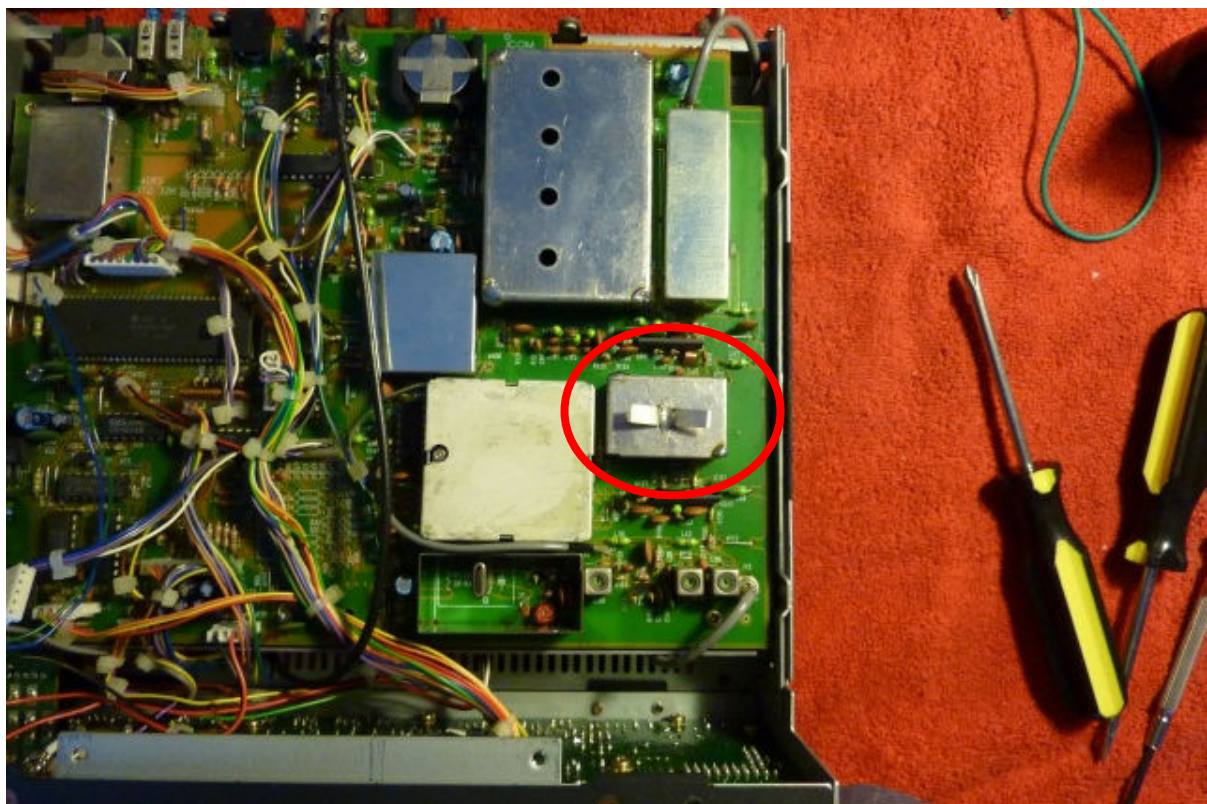
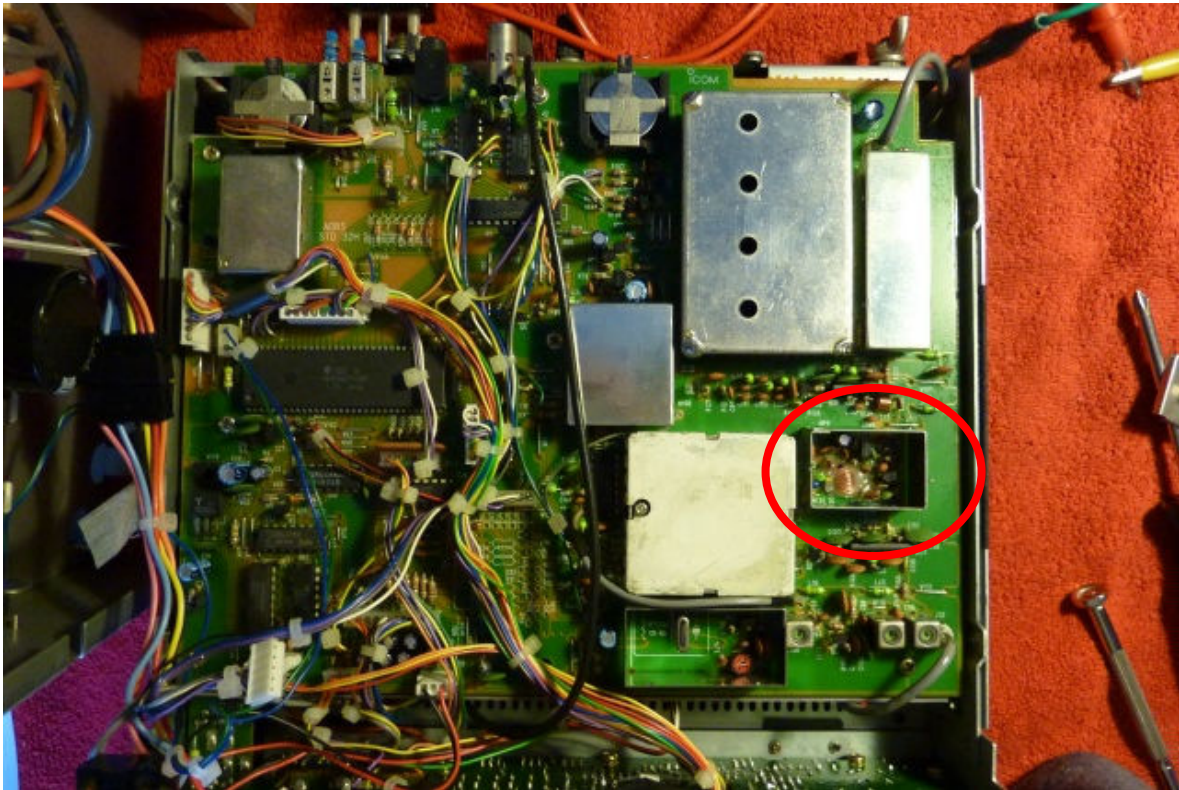

Figure 1. Circled is the cover of the DDS that must be removed; just pull it out, it is not soldered in place.
Figure 2. Circled is the DDS with its cover removed.
- 2) Open your radio to access the PCB below the power supply (Figure 1)
- 3) Remove the cover of the DDS oscillator (circled in Figure 1 and Figure 2); you can simply pull it out, since it is not soldered in place